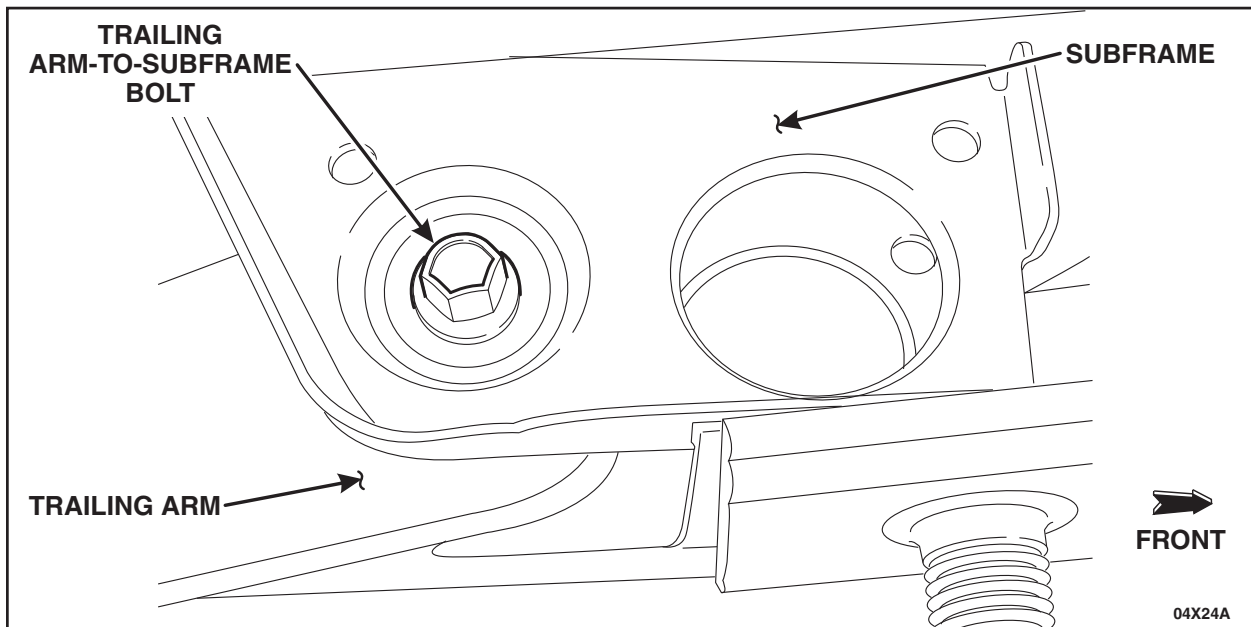

FIGURE 10
9. Remove the trailing arm-to-subframe bolts. See Figure 10.
13. Using a High Lift Transmission Jack 014-00942 or equivalent, raise the rear axle assembly in position and install the trailing arm-to-subframe bolts. See Figure 10.